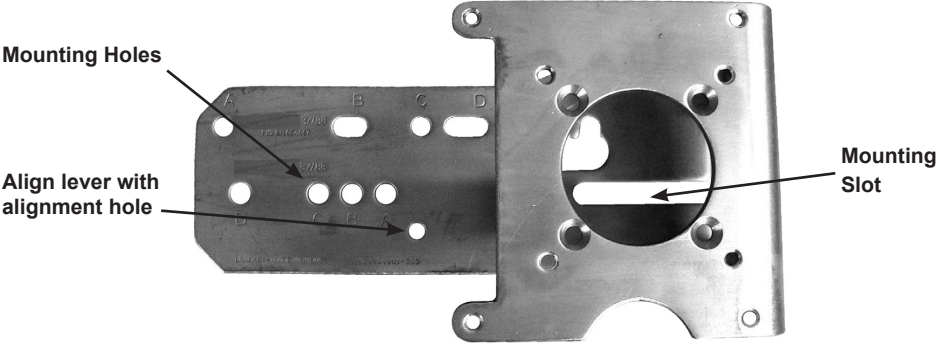

Figure 15 - Ensure Position Linearity
12. Ensure the adjustable link turnbuckle is parallel to the valve stem. Verify that the hole in the lever aligns with the alignment hole in the bracket when the valve is in the closed position. Check that the bracket is mounted using the proper holes (Figure 15).